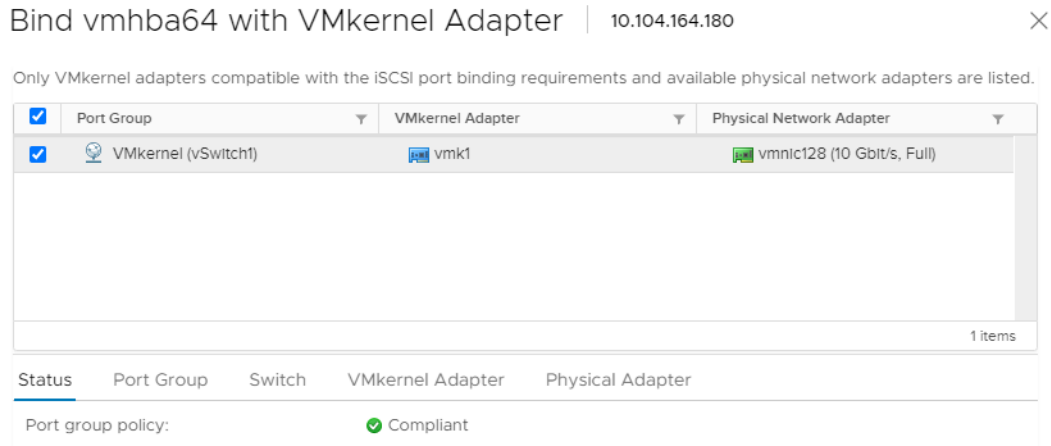

Figure 10-10. Binding the VMkernel Adapter to the iSCSI Partition
3. Bind the VMkernel adapter created in Step 2 to the iSCSI partition (Figure 10-10).